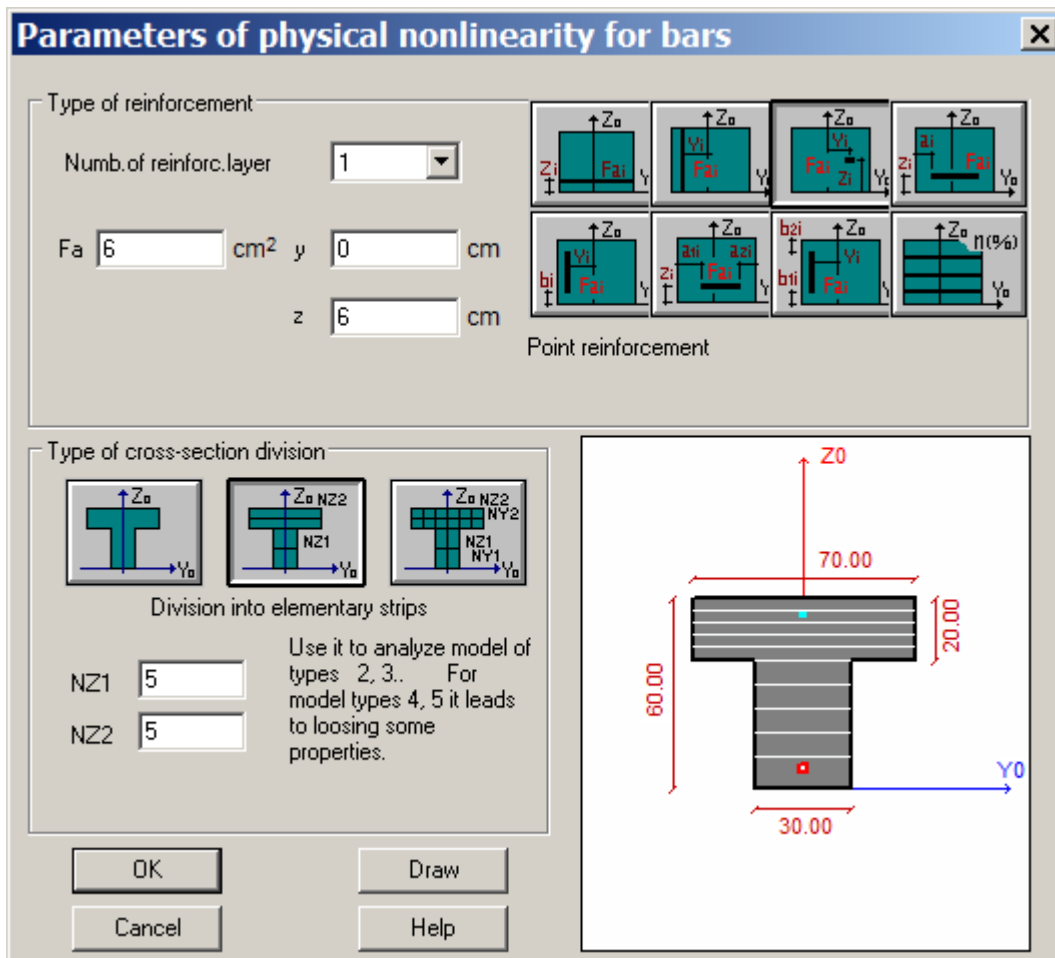

Figure 7.16 Parameters of physical nonlinearity for bars dialog box
- ⇒ In the **Parameters of physical nonlinearity for bars** dialog box (see Figure 7.16), click the **Point**